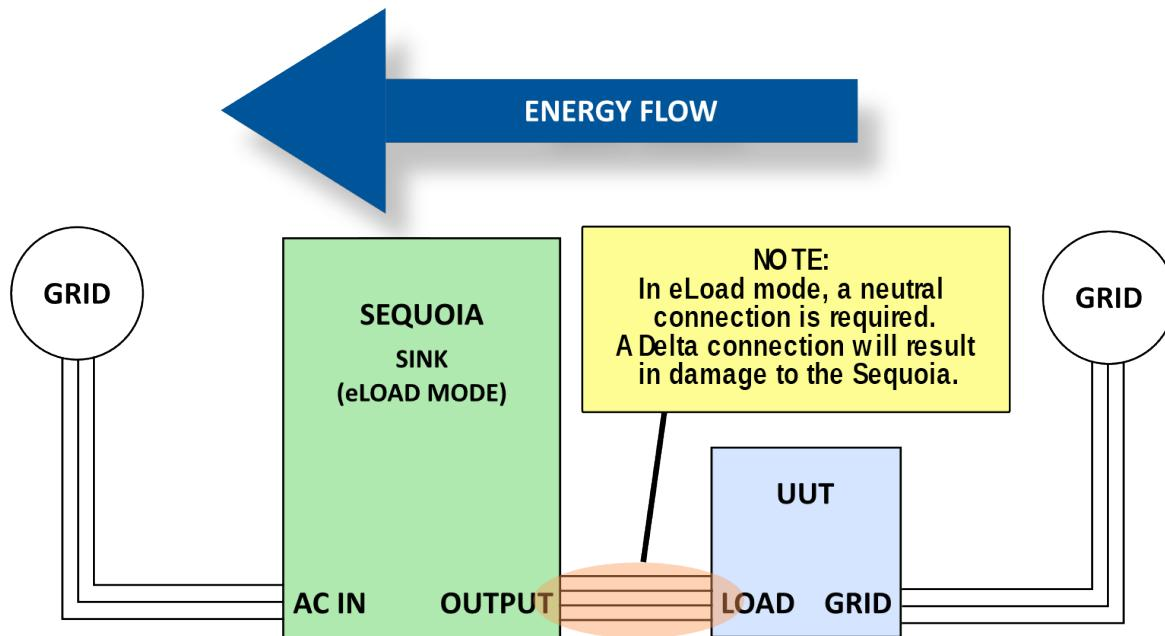

Figure 4-3: Electronic Load Mode
Energy flow is from UUT to facility AC input through SEQUOIA as shown in Figure 4-3.
In the three-phase mode of operation, Sequoia requires a STAR-connected source as UUT. Neutral from the output of UUT must be connected to the output neutral of the Sequoia. Refer to the Figure 4-3.
1. Electrical Connection: Connect the UUT output to the SEQUOIA output as shown in Figure 4-3.